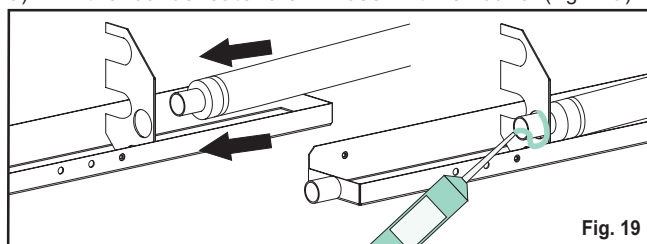

Fig. 19
- 9) Fix the condensate drain hose with silicone (fig. 19)